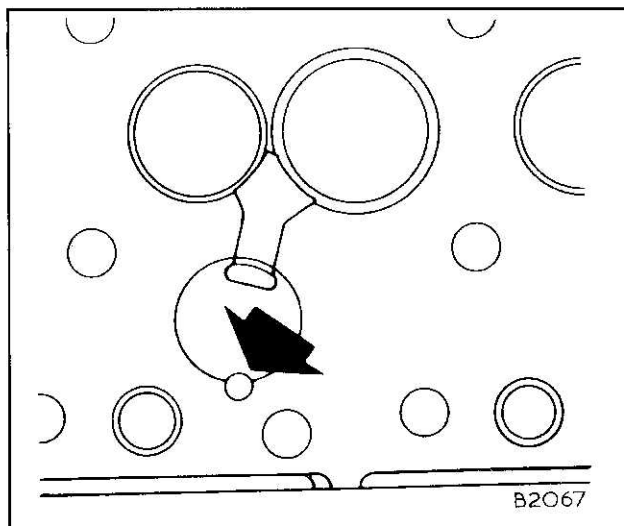

Fig. 6
2. To replace, locate a new insert with an expansion plug, Fig. 6, loosely fitted, in the recess provided.